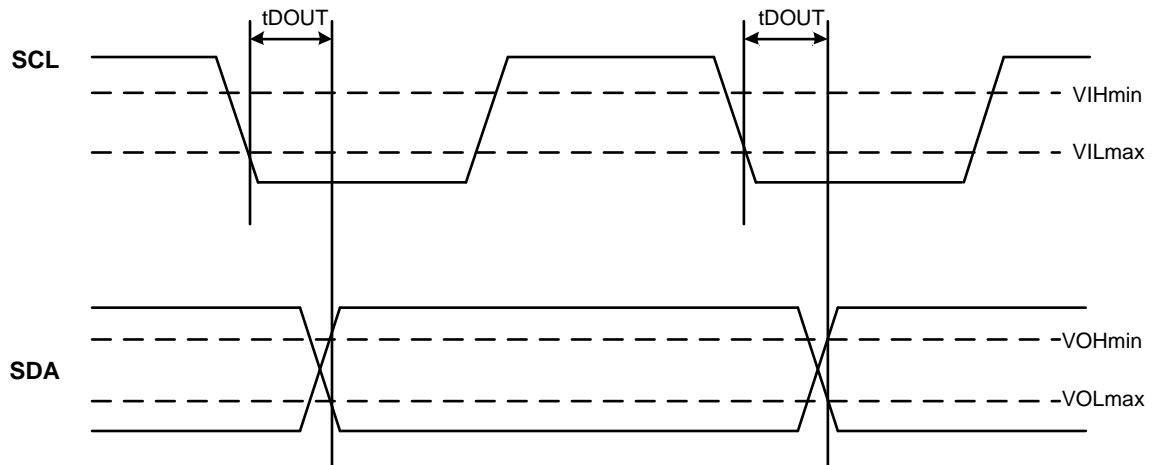

Figure 19. I³C Basic Bus AC Data Output Timing Parameter Definition
8. See Figure 19. I3C Basic Bus AC Data Output Timing Parameter Definition